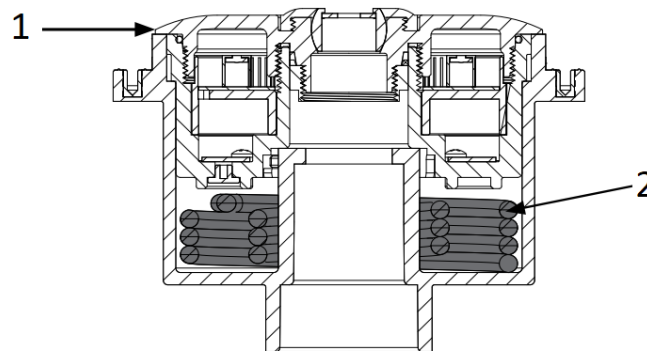

FIGURE 6: EXTRA WIRE IN HOUSING
C.2.2 The 12VAC transformer (not included) is to be located in a waterproof enclosure. The conduit from the Brilliant Wonders Bubbler should be connected to the transformer enclosure. Pull the cable from the Brilliant Wonders Bubbler through the conduit to the transformer enclosure (not included). Leave about 12-24" of wire in the Brilliant Wonders Lighted Bubbler's inner housing (this is to allow for servicing of the LED module – Figure 6). Pull the rest of the cable through to the transformer box. The bubbler unit can be mounted onto the hub by winding the excess cable around the inner hub inside the housing and lining up the LED module with the guide pins on the hub. Secure the light by pushing the light downward onto the hub and twisting the light unit **COUNTER-CLOCKWISE** (Figure 5). Secure the unit by replacing the LED Module Retaining Screw.